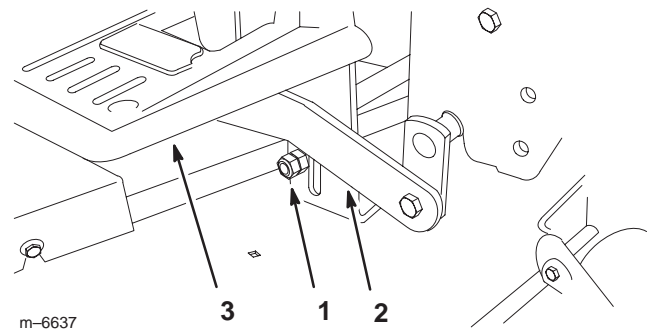
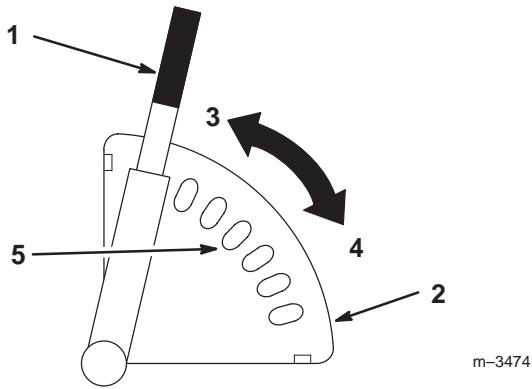

Figure 17
Figure 23
- Raise the mower to the highest height-of-cut (Fig. 23) and check if the transport level stops contact the bottom of the draft bars (Fig. 17).
- If needed, loosen and adjust the transport level stops so they just contact the bottom of the draft bars (Fig. 17).
- If one of the bumpers does not contact the footrest, adjust the appropriate transport level stop (Fig. 17).
3. Pull the height-of-cut lever out to disengage it from the quadrant (Fig. 23).
4. Adjust the height-of-cut to the desired level (Fig. 23).
5. Release the lever inward to lock it into the quadrant (Fig. 23).